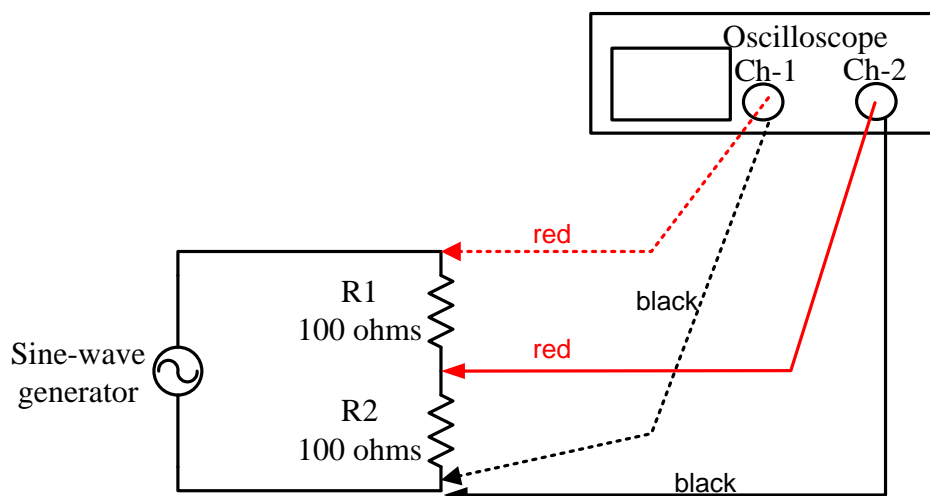

Figure 4-6: A circuit for measuring phase shifts.
- Make sure that the generator is off. Connect the circuit of Figure 4-6. Channel 1 is connected to the output of the generator. Select channel 1 as the trigger source. Channel 2 is connected across resistor R2.³
1. Replace R1 in Figure 4-6 by a 22-mH inductor.⁴
1. Replace R1 in Figure 4-6 by a 0.47- μ F capacitor.